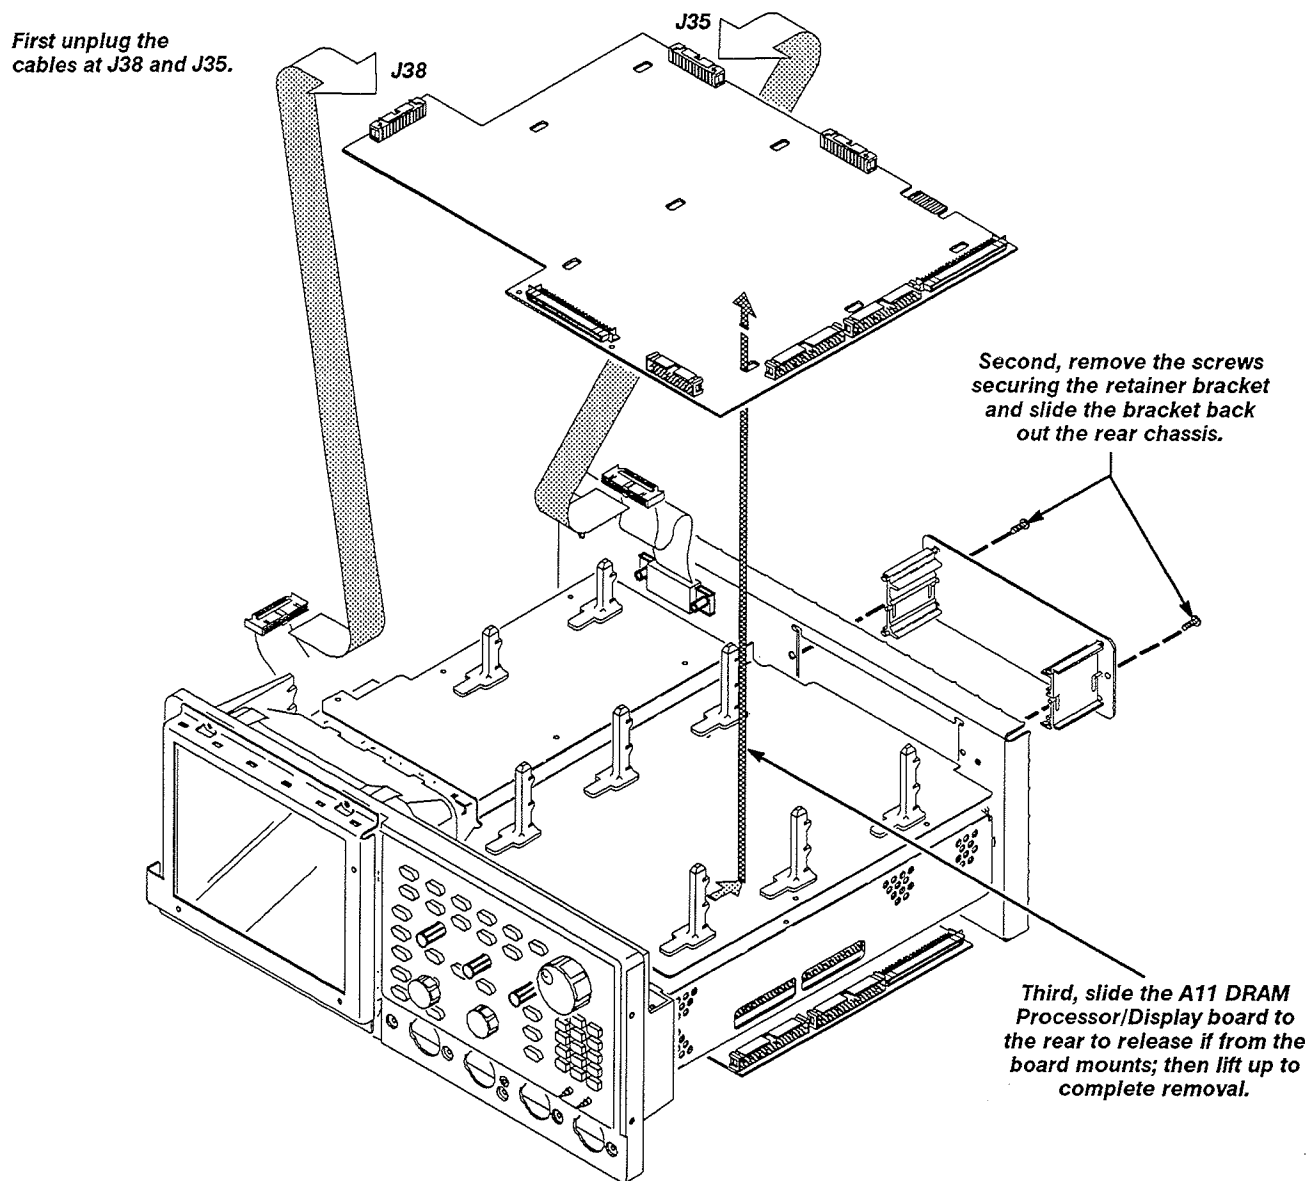

Figure 6-13: A11 Processor/Display Removal
4. *Remove the processor/display board:* Use Figure 6-13 as a guide while doing the following substeps: